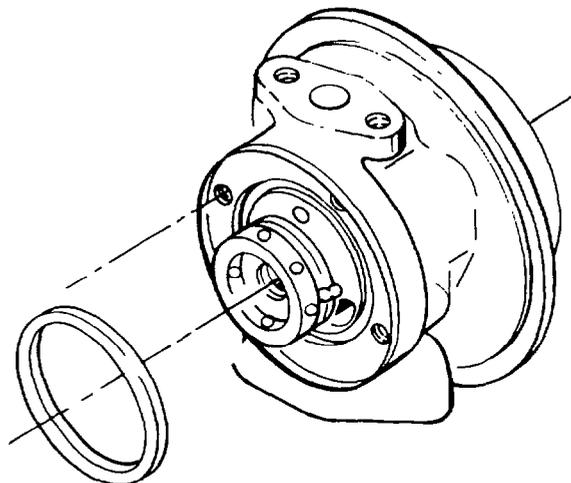

Fig. 153 — Installing O-ring
- h. Lubricate the square-cut O-ring with rubber grease then fit the O-ring into the groove in the centre housing (see fig. 153).